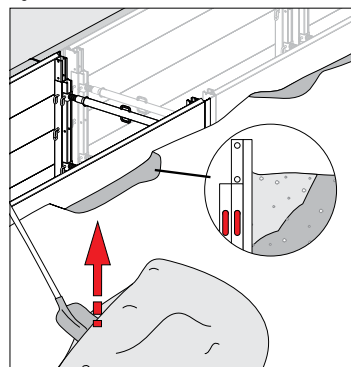

Fig. 6
- Once the trench shoring has been set up in the trench, backfill all hollow spaces between the shoring and the side of the trench (Fig. 6).